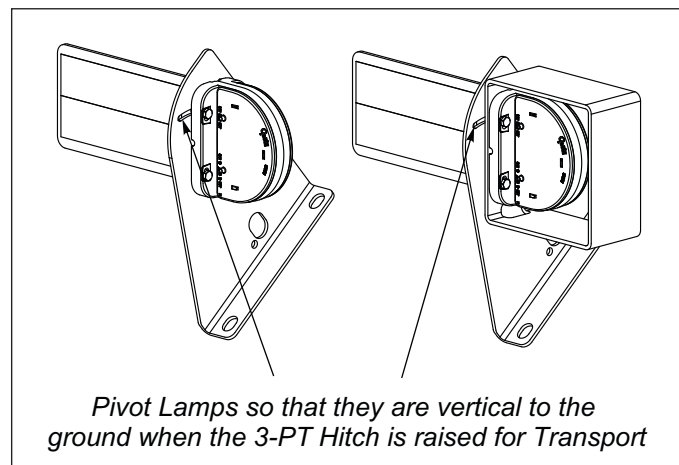

Figure 2-3: Lamp Adjustment
11. Adjust the Lamp Angles so Lamps are vertical when the Pulverizer is raised to transport height. **See Figure 2-3.**